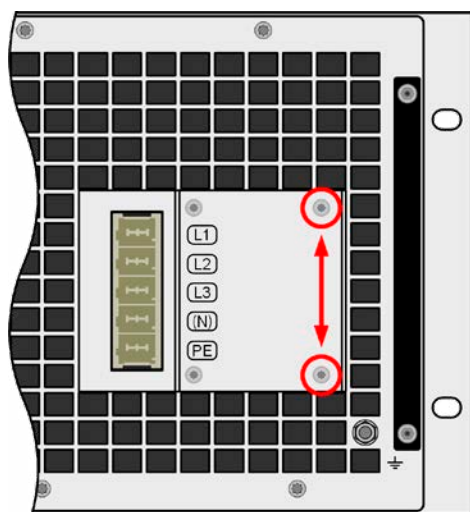

Figure 10 - Mounting position of the bracket
1. Remove the two screws from the AC filter box as marked in *Figure 10* below.